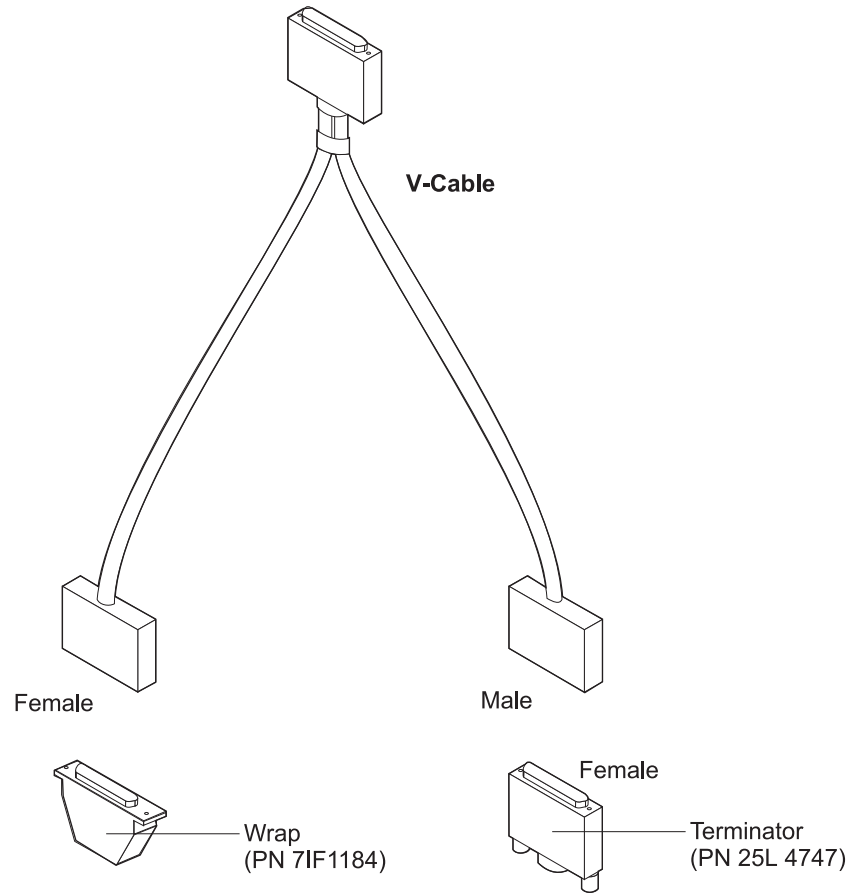

Figure 1-7. V-cable Wrap Test Connections
2. V-cable, see Figure 1-7 on page 1-25